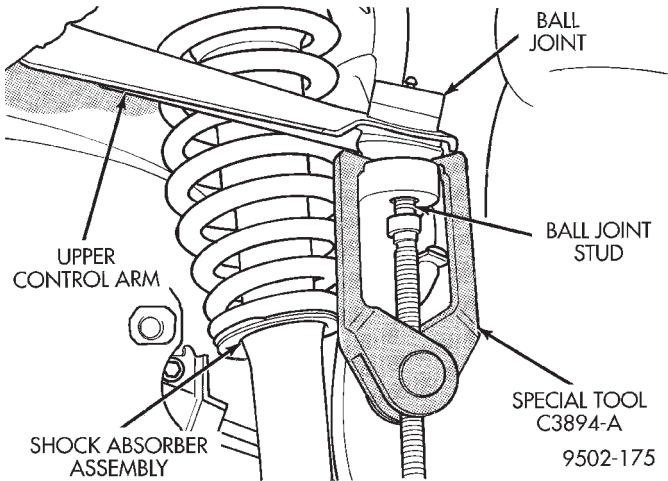
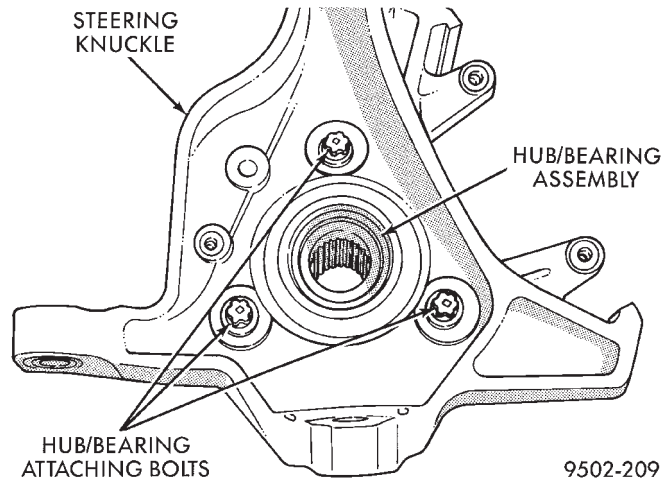

Fig. 43 Ball Joint Stud Removal From Steering Knuckle
Fig. 44 Hub/Bearing Attaching Bolts
(18) Remove the upper ball joint stud from the steering knuckle using Puller, Special Tool, C3894-A (Fig. 43).
(19) Remove steering knuckle from vehicle.
(20) Mount steering knuckle securely in a vise.
(21) Remove the 3 bolts (Fig. 44) attaching the hub/bearing assembly to the steering knuckle.
(22) Remove the hub/bearing assembly out from the front of the steering knuckle. If bearing will not come out of steering knuckle, it can be tapped out using a soft faced hammer.
(23) Thoroughly clean all hub/bearing assembly mounting surfaces on steering knuckle.
(24) Install the replacement hub/bearing assembly in steering knuckle aligning bolt holes in bearing flange with holes in steering knuckle.
(25) Install the 3 mounting bolts (Fig. 44) and tighten evenly to ensure bearing is square to face of steering knuckle. The tighten the 3 mounting bolts (Fig. 44) to a torque of 110 N·m (80 ft. lbs.).